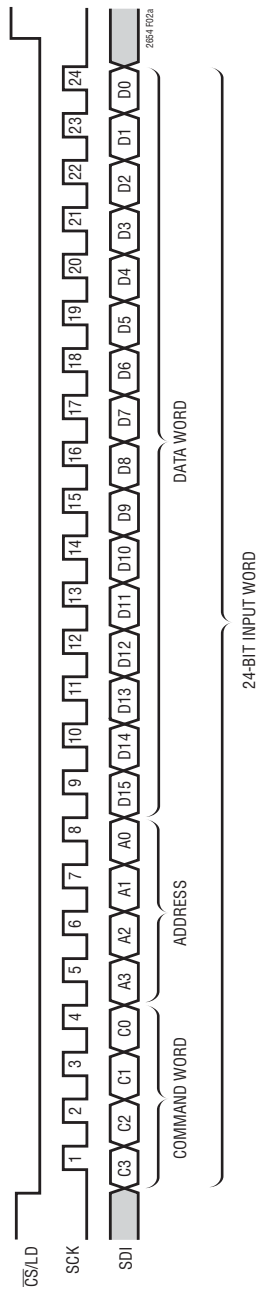

Figure 2a. LTC2654-16 24-Bit Load Sequence (Minimum Input Word)
**SDI (Pin 9/Pin 9):** Serial Interface Data Input. Data is applied to SDI for transfer to the device at the rising edge of SCK (Pin 10). The LTC2654 accepts input word lengths of either 24 or 32 bits. See Figures 2a and 2b.
The  $\overline{CS}/LD$  input is level triggered. When this input is taken low, it acts as a chip-select signal, powering on the SDI and SCK buffers and enabling the input shift register. Data (SDI input) is transferred at the next 24 rising SCK edges. The 4-bit command, C3-C0, is loaded first; followed by the 4-bit DAC address, A3-A0; and finally the 16-bit data word. For the LTC2654-16 the data word comprises the 16-bit input code, ordered MSB-to-LSB. For the LTC2654-12 the data word comprises the 12-bit input code, ordered MSB-to-LSB followed by four don't-care bits. Data can only be transferred to the LTC2654 when the  $\overline{CS}/LD$  signal is low. The rising edge of  $\overline{CS}/LD$  ends the data transfer and causes the device to carry out the action specified in the 24-bit input word. The complete sequence is shown in Figure 2a.